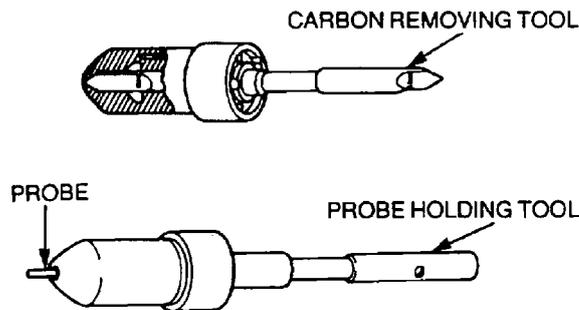

Figure 138 Nozzle Valve Seat Cleaning
- d. Using the tools provided in the cleaning kit, remove the carbon from the valve seat (Figure 138), then select a suitable probe from the kit to clean the main fuel outlet.